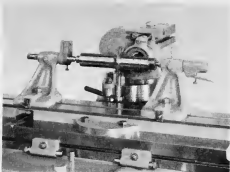

Figure 44B
1. Adjust the saddle away from the wheelhead to allow plenty of room for the set-up. Clean the table and bottoms of the right and left-hand tailstocks. Clamp them to the table, with an extra T-bolt between them, and properly spaced for the arbor or mandrel used for the set-up, (Figure 44B)